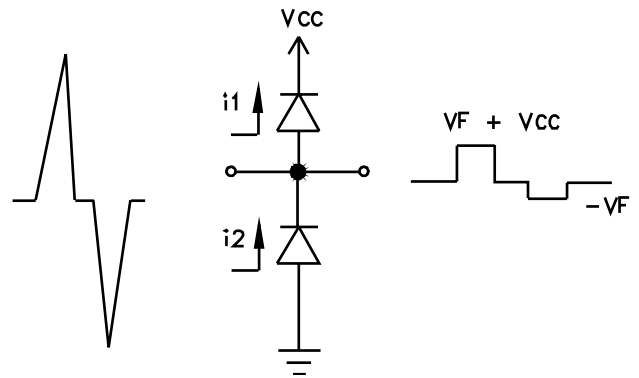

Figure 1 - "Rail-to-Rail" Protection Topology (First Approximation)
3. In applications where no positive supply reference is available, or complete supply isolation is desired, the internal TVS may be used as the reference. In this case, pin 5 is not connected. The steering diodes will begin to conduct when the voltage on the protected line exceeds the working voltage of the TVS (plus one diode drop). ESD Protection With RLST236A054LV. RLST236A054LV are optimized for ESD protection using the rail-to-rail topology. Along with good board layout, these devices virtually eliminate the disadvantages of using discrete components to implement this topology. Consider the situation shown in Figure 1 where discrete diodes or diode arrays are configured for rail-to-rail protection on a high speed line. During positive duration ESD events, the top diode will be forward biased when the voltage on the protected line exceeds